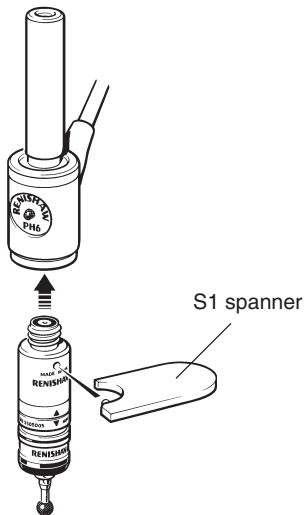

Figure 20 – Fitting a touch-trigger probe to a manual probe head (PH6 shown)
Fit an M8-threaded non-autojointed CMM touch-trigger probe to a manual probe head as described below (see Figure 20):
2. Fit the S1 ‘C’ spanner (supplied) to the touch-trigger probe as shown in Figure 20.